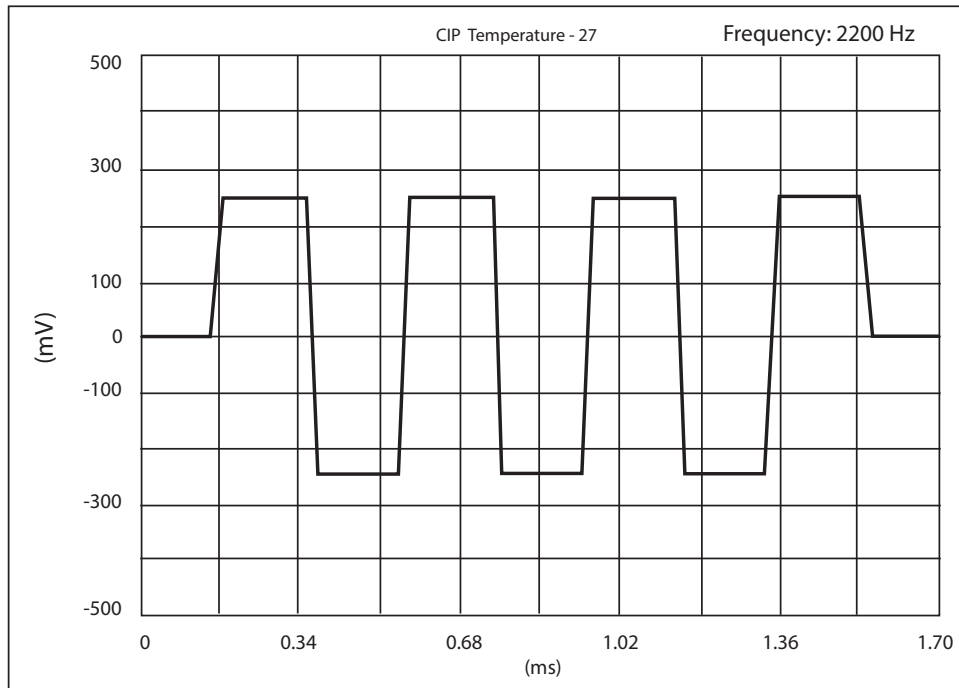

Figure 5.1: modulation wave shape
- HART modulator output: **400mVpp through 250 Ohm (see figure 5.1)**